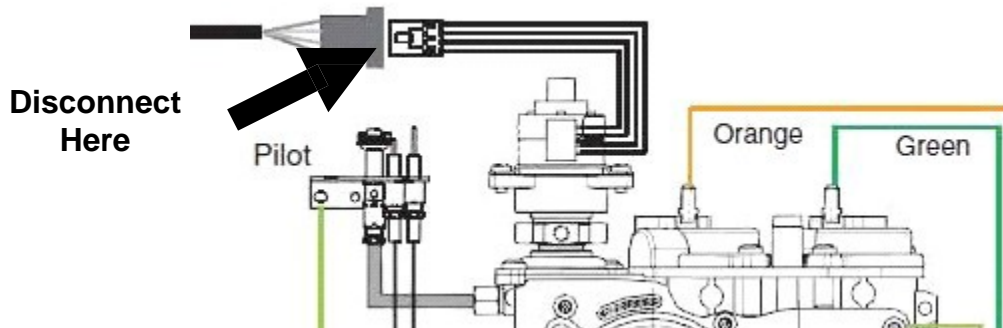

Figure 5 - Motor Lead Connection Detail
14. You will need to disconnect the motor lead. Follow the wires from the stepper motor back until the first connection. Disconnect the wires at this junction. See *Figure 5*.